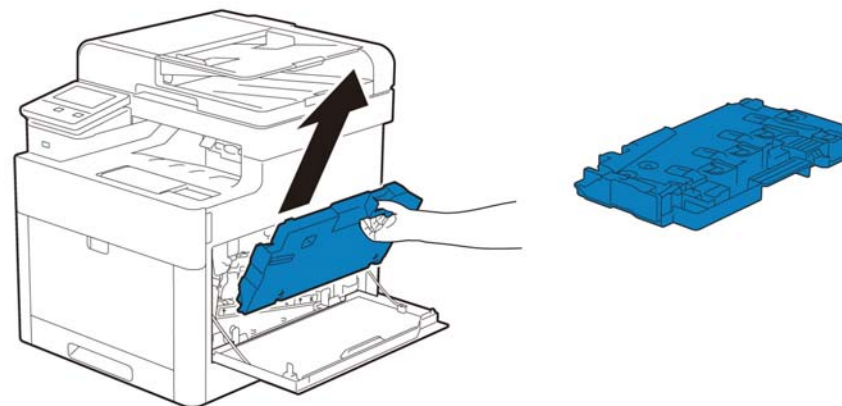

Figure 1 Remove the toner waste box assembly
1. Open the waste box cover on the right side, press the tab and remove the waste toner assembly, Figure 1.